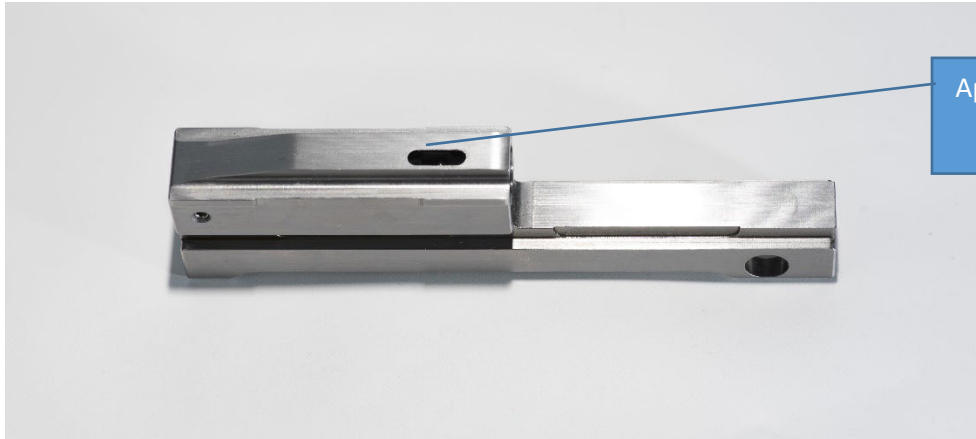

Figure 5: Bolt Carrier Lubrication 2
- Lubricate the bottom face of the Bolt Carrier that rides on the hammer of the firearm, see Figure 5.